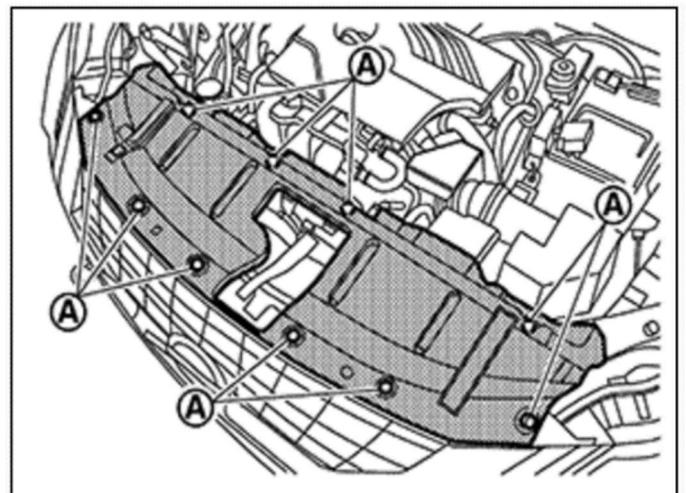

Figure 24
24. Reinstall the front grille cover and reinstall fixing clips. (Figure 24)
- Reinstall ten (10) fixing clips